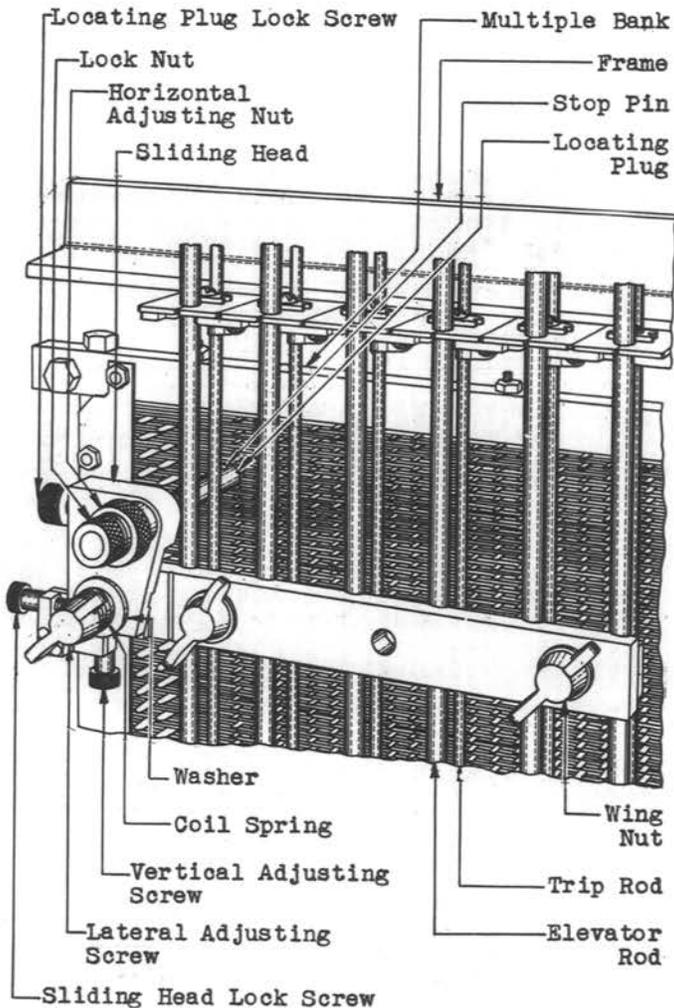

Fig. 10 - Method of Using a No. 61 Gauge to Establish a Reference Point in Relation to Elevator Rods
3.11 Locate the gauge base in front of the elevator rods and then move it vertically along the elevator rods until the end of the locating plug when pushed forward comes approximately within the space between the 5th and 6th terminals from the top and bottom. Then clamp the gauge in position as shown in Fig. 10.